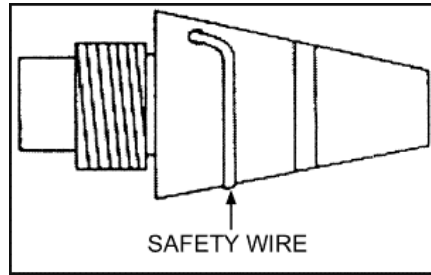

Figure 7-16. M935 PD fuze.
- (1) Functions: Air burst or impact.
- (2) Settings: Six to 52 seconds.
- (3) Remarks: The fuze has a mechanical arming and timing device, expulsion charge, and safety wire or pin.
b. **M935 PD Fuze** (Figure 7-16).